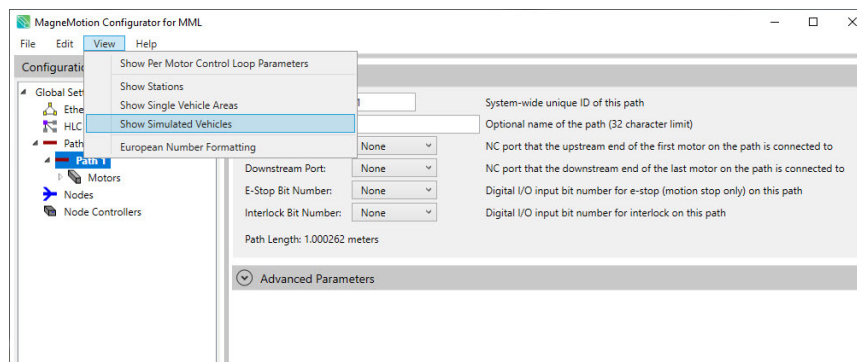

Figure 4-133: Show Simulated Vehicles Option Selected
*A check mark is displayed before the **Show Simulated Vehicles**, see Figure 4-133, to indicate it is selected. When a path is expanded, the **Simulated Vehicles** element is listed.*